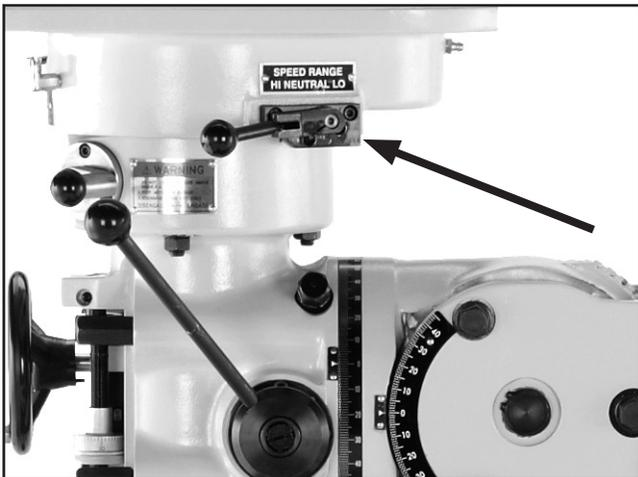

Figure 34. Spindle speed range selector in the HIGH position.
3. Move the spindle speed range selector to the desired position (see **Figure 34**).